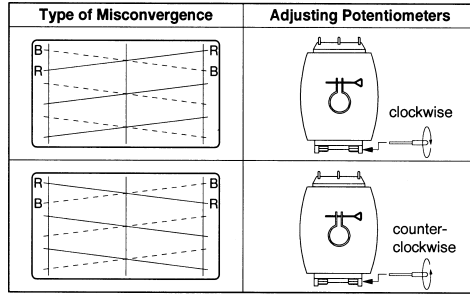

Fig. 6. 6. Convergence of Screen Corner
- 2: When beam lines do not converge at left and right portion of the screen, adjust vertical cross (Xv) with the horizontal Differential Coil as shown in Fig. 6.